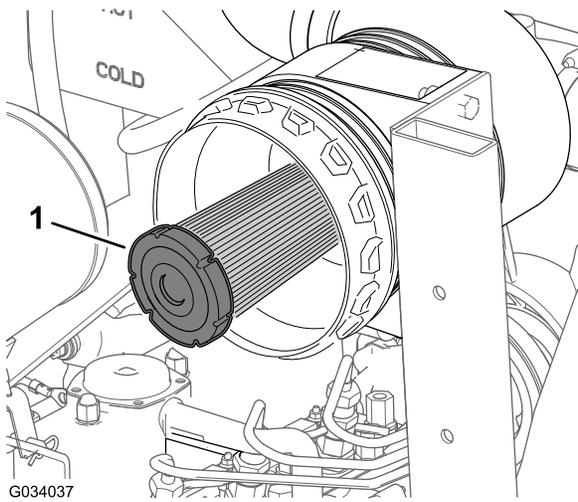

Figure 46
2. Check the air-cleaner safety filter for dust and debris (Figure 46).
Important: Never attempt to clean the safety filter (Figure 46). Replace the safety filter after every 3 primary filter services.